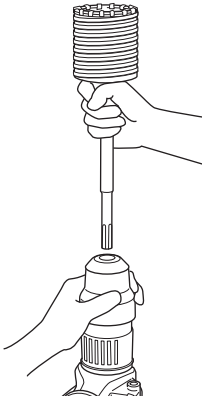

Fig. 17
- (2) Mount the core bit shank to the Rotary Hammer. (Fig. 17)